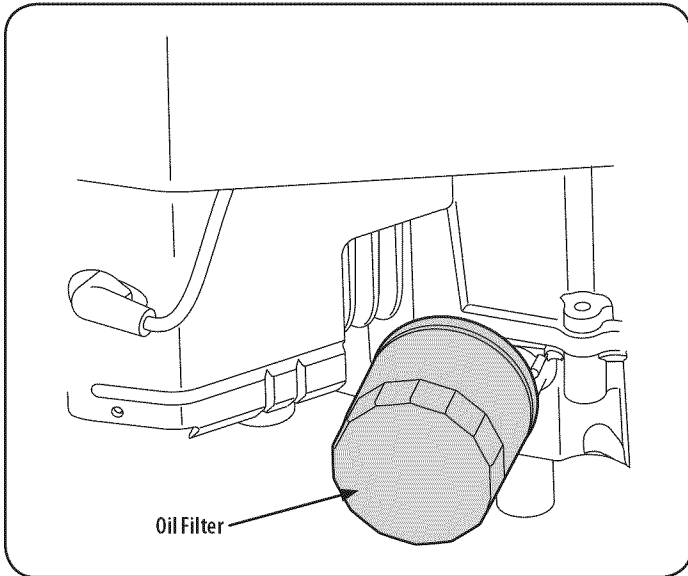

Figure 25
- Clean the area around the oil filter. Place a container under the filter to catch any oil and remove the filter. See Figure 25.